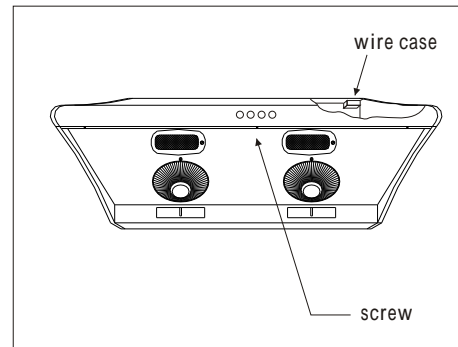

Fig.12
2. Remove screws on wiring case, fish out wires through the knockout. (Fig.12)